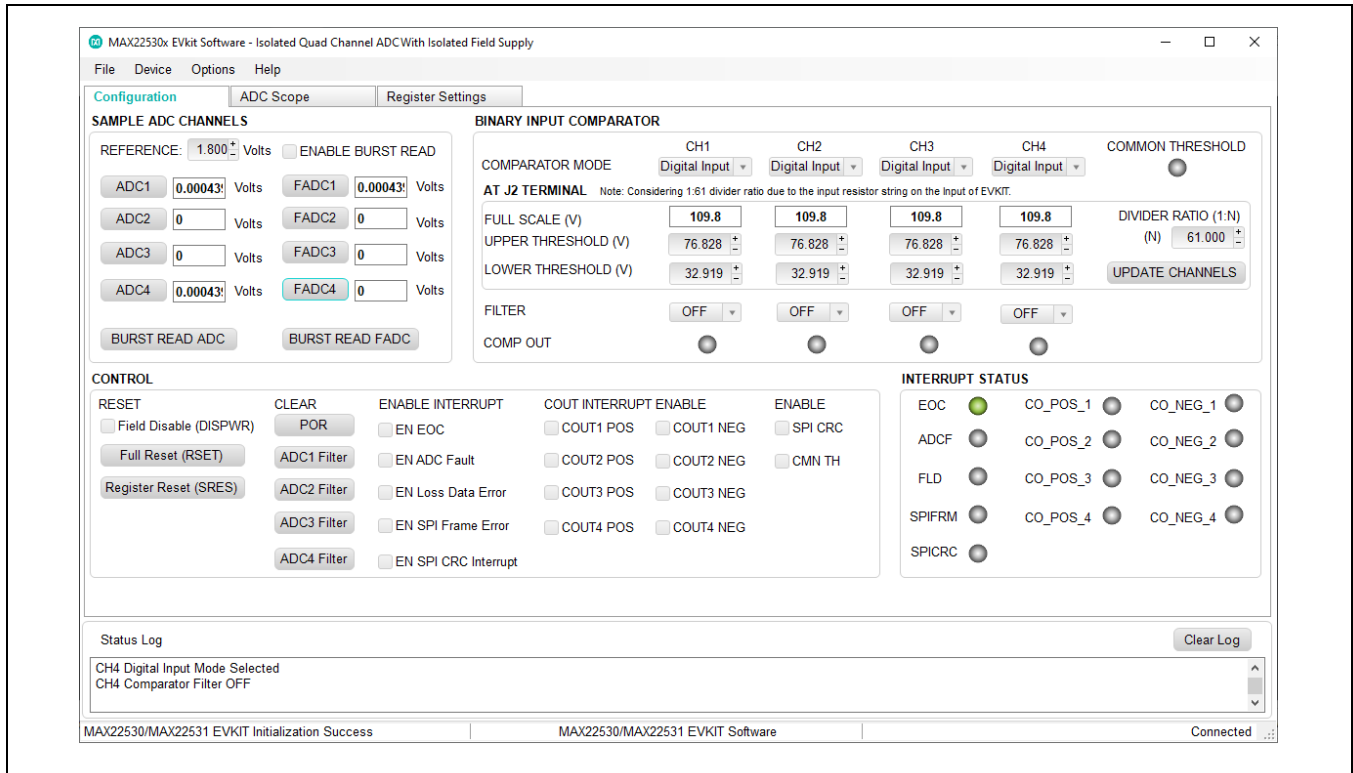

Figure 1. Configuration Tab
5. Once the hardware is ready to use, launch the EV kit software by opening its icon from either the **Desktop** or **Start | Programs** menu. The EV kit software appears as shown in the Figure 1.